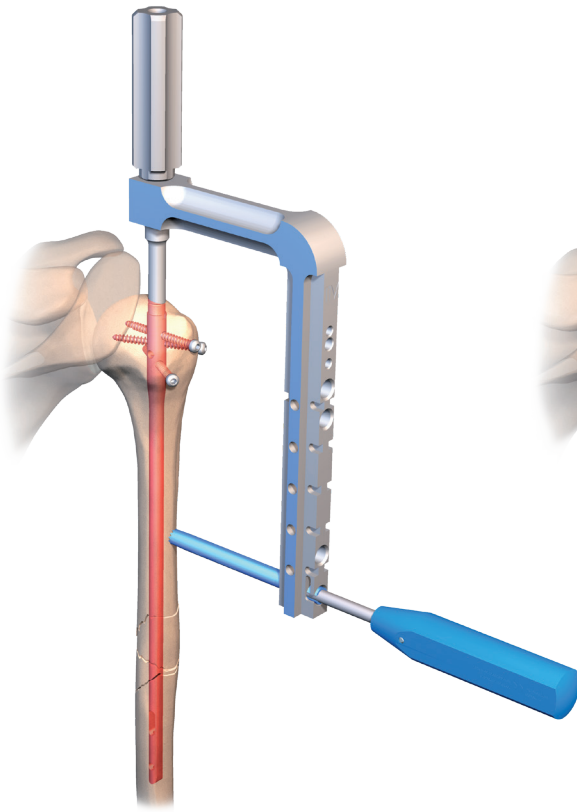

fig. 11
· Insert the blunt tip eyelet handle (**intermediary obturator ref. 253 676**) into the aiming sleeve (**blue with notch ref. 257 010 or ref. 253 679**) until contact is made with the humerus (**fig.11**).